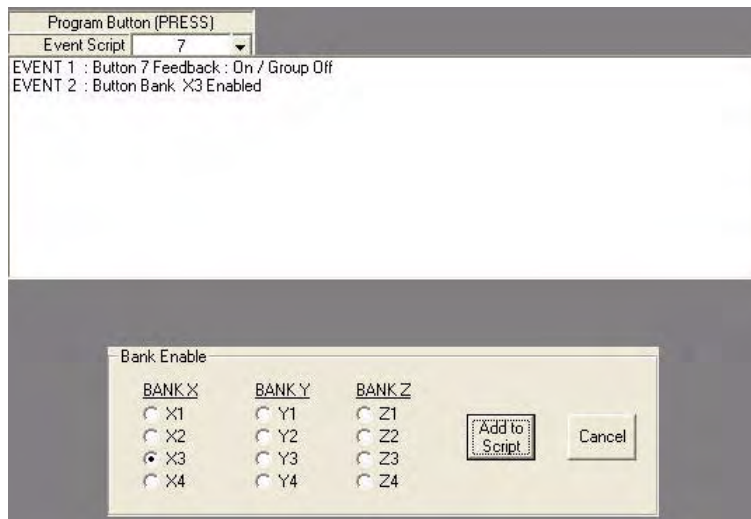

FIG. 70 Button 7 script, with Enable X3 Bank selected
- Write a script and include Enable Bank X3 (FIG. 70).